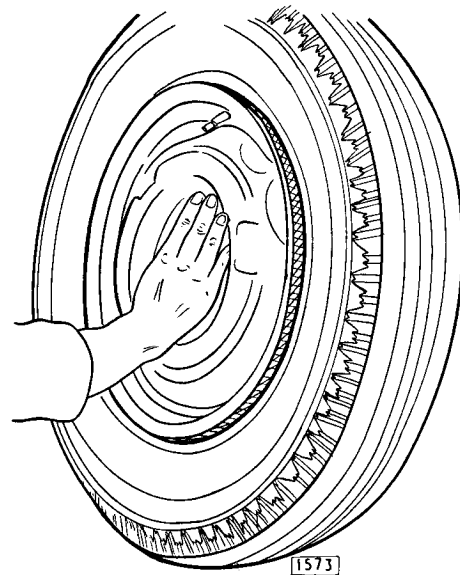

Fig. 22. Method of sealing bead without tourniquet.
2. Lean tyre and wheel against a wall at an angle as shown in Fig. 22. (See note below.)
3. Press wheel centre so that nearest bead obtains a hold on the rim seat. (Fig. 22.)
Note : Some rims have a wider seat on one side than on the other. When fitting to a rim with equal seats the first part of the operation (Fig. 22) should be carried out with the valve at the front. On other rims, the first operation should be carried out with the valve towards the wall and the wider rim seat to the front.